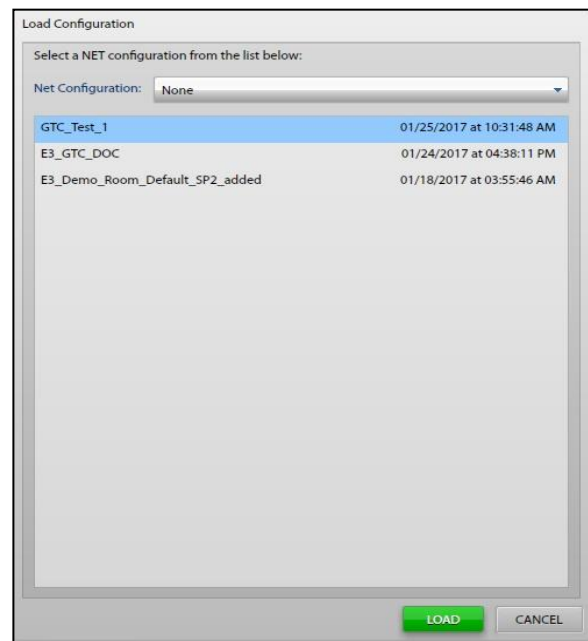

Figure 7. Load Configuration
1. Click the LOAD CONFIGURATION button. The list of existing configurations, in the LOCAL CONFIGURATIONS (WORKING) folder, on the computer, appears. Configurations sort and list by the modified date, from newest to oldest (see Figure 7).